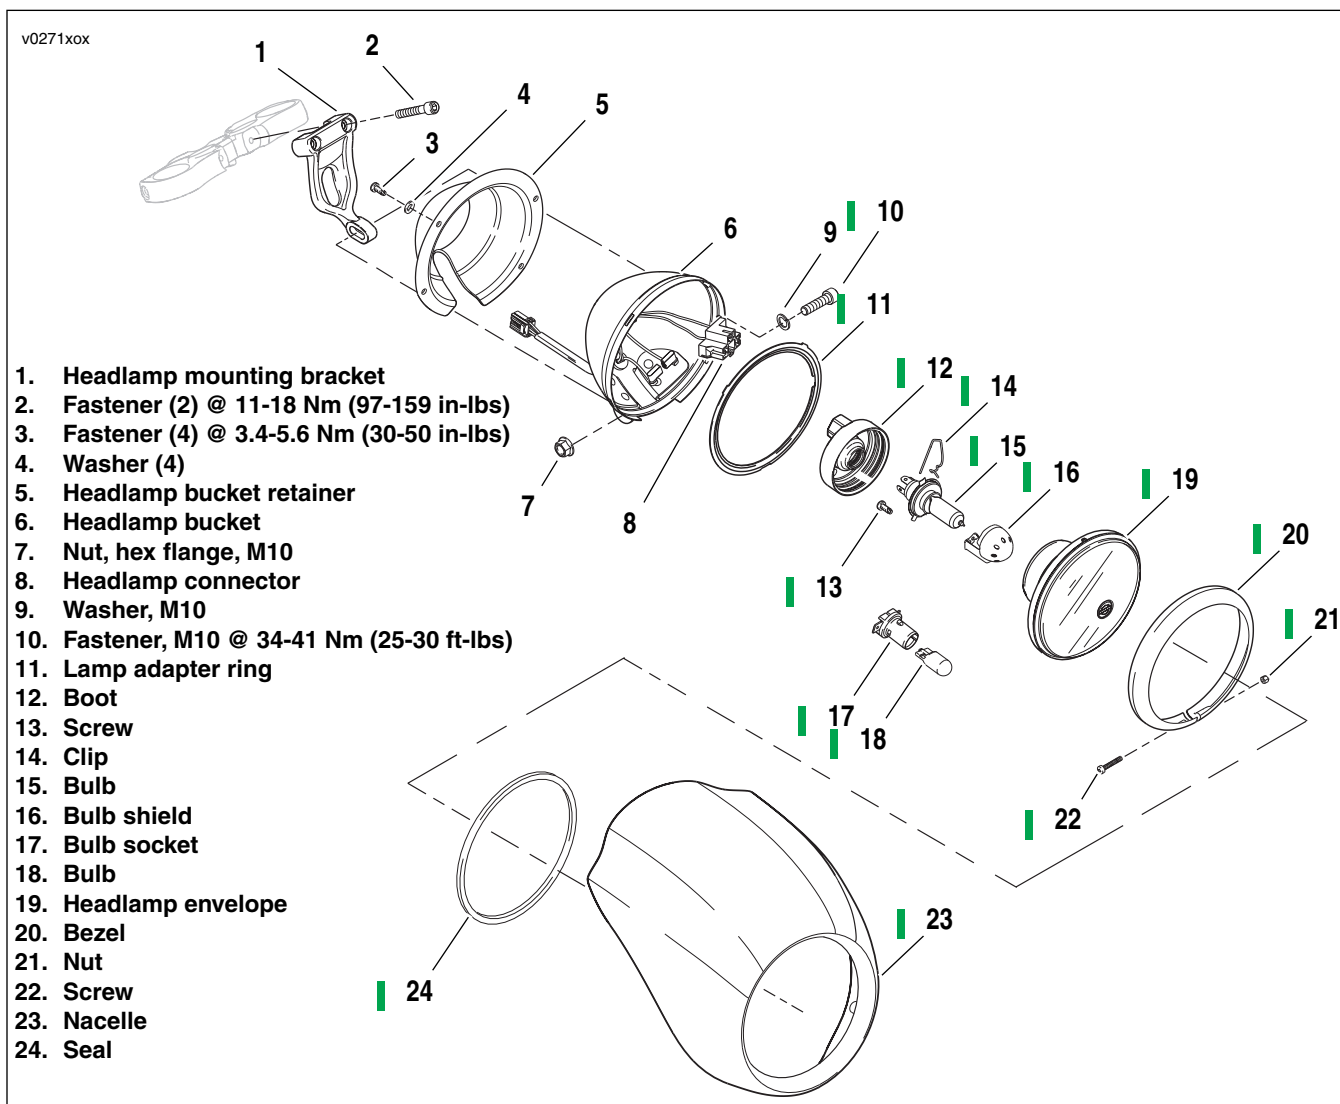

Figure 8-25. Headlamp (VRSCD)
1. See Figure 8-25. Loosen M10 fastener (10) and allow headlamp/nacelle assembly to drop slightly forward.
2. Remove fasteners (3), washers (4) and remove headlamp bucket retainer (5) from nacelle (23).
3. Reach behind the headlamp bucket (6) and grasp the headlamp connector (8).
1. See Figure 8-25. To install a **new** headlamp bulb, insert it into the hole in the rear of the headlamp. Facing the headlamp assembly from the rear (looking toward the front of the motorcycle):
3. Gently twist the bulb clockwise (CW) approximately 45 degrees, until it stops.